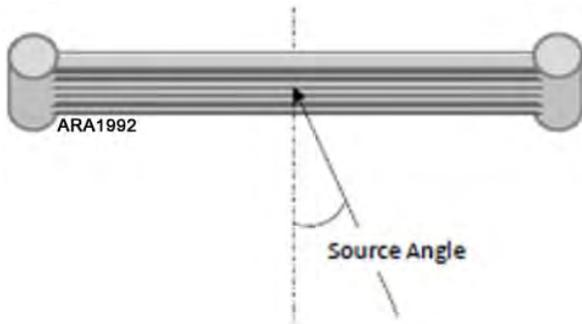

Figure 226: Source Angle for Cleaning with Air
- Compressed air can be used and will work best when blown thru the coil from the non-air side when possible. Blowing thru from the airside may imbed debris in the coil that was only on the surface. It is recommended to start with one of the first three options before using compressed air if the non-air side is not accessible. The angle at which the air should be directed at the coil should not be less than 75 degrees (see Figure 226).